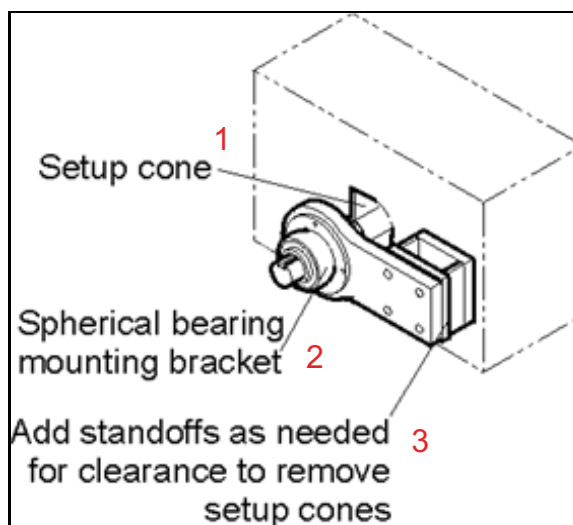

FIGURE 3-2. BORING BAR INSERTION
2. Carefully slide the boring bar through the holes to be bored (see Figure 3-2).